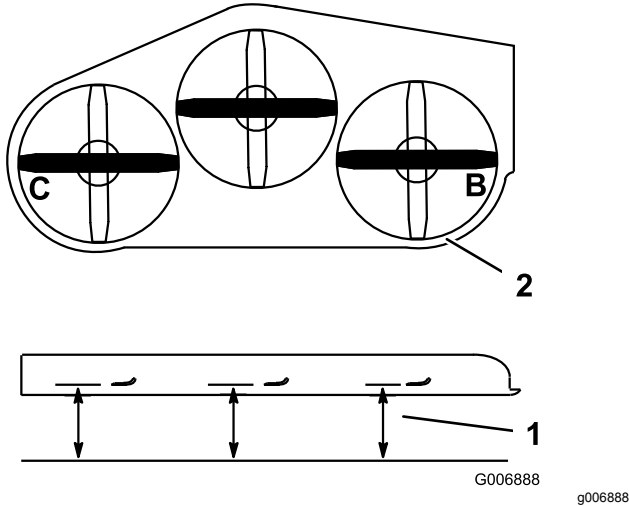

Figure 99
1. Position the **right** blade side-to-side (Figure 99).
2. Measure the right blade at the **B** location, from a level surface to the cutting edge of the blade tip (Figure 99).
4. Position the left blade side-to-side (Figure 99).
5. Measure the left blade at the **C** location (Figure 99), from a level surface to the cutting edge of the blade tip.